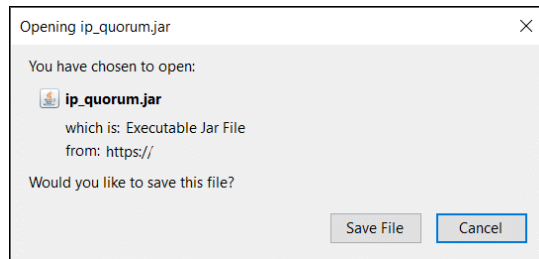

Figure 4-95 IP Quorum Java application
3. After you select your correct IP configuration, IBM Spectrum Virtualize generates an IP Quorum Java application, as shown in Figure 4-95. The application can be saved and installed in a host that is to run the IP quorum application.